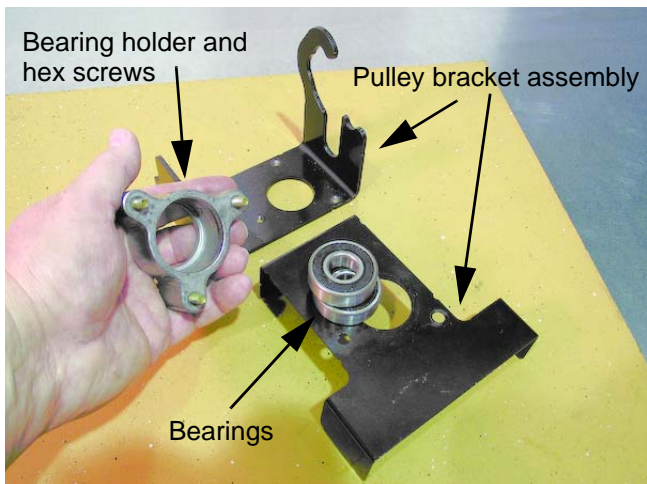

Figure 5.36
- 3d. Remove the three screws that fasten the bearing holder to the bracket, and lift away the bearing holder. See Figure 5.36.